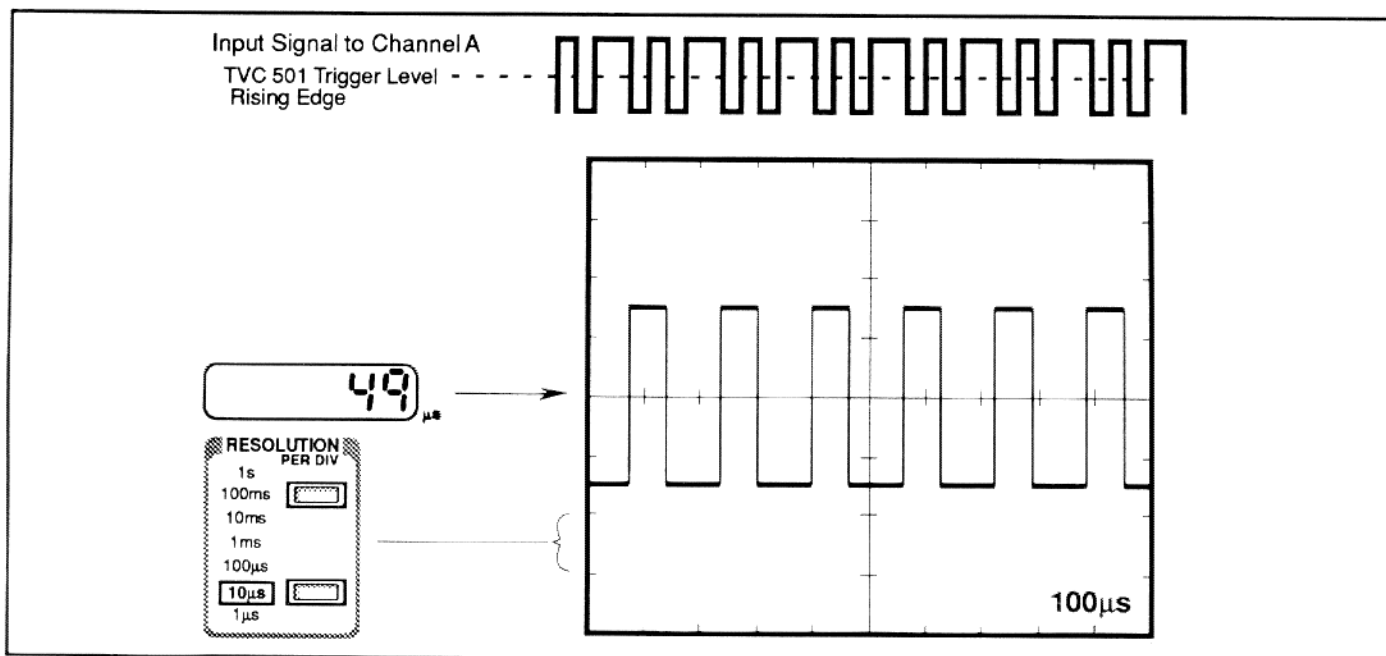

Figure 4-11. Width vs. Time Display. The oscilloscope shows the width vs. time display for the instructional signal called b.out 5.
8. Set the horizontal sweep of the oscilloscope to 100 μs/div. You should see a signal that looks like the oscilloscope display in Figure 4-11.